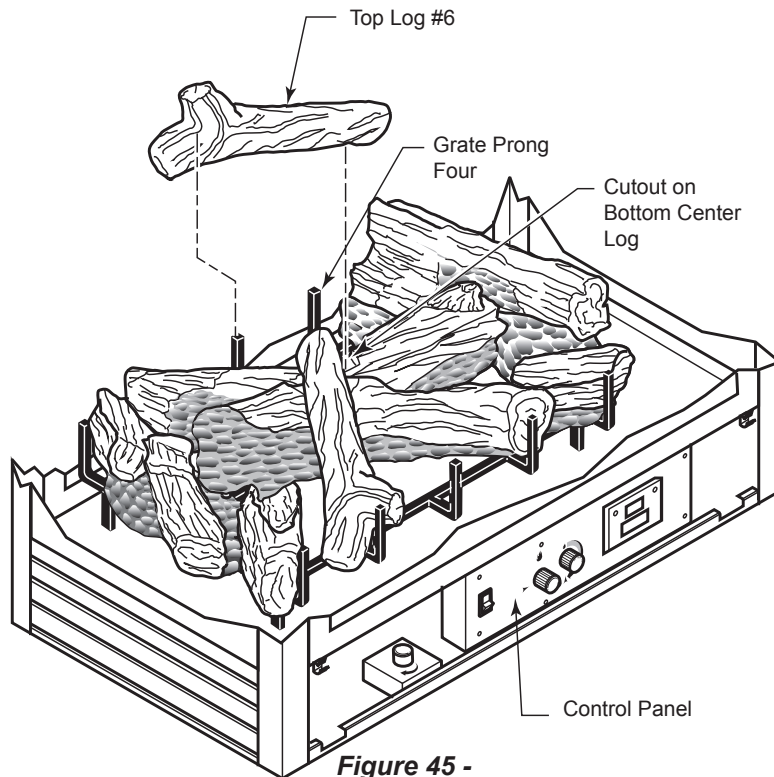

**Figure 43 -
6. Line up pin holes on bottom front log (#4) with pins on grate. *Figure 43*